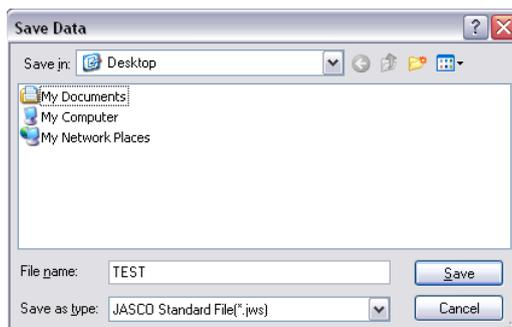

Figure 4.12 [Save Data] dialog box
- (2) Select a location to save the spectrum clicking the arrow at extreme right in the [Save in] box (in Figure. 4.12, “Desktop” is selected).
- (3) Input a filename in the [Filename] text box. The extension (the letters appearing after “.”) need not be entered. The output file is saved as a .jws format file.
- (4) Clicking the <OK> button saves the spectrum to disk (in the example shown the filename is “TEST”).